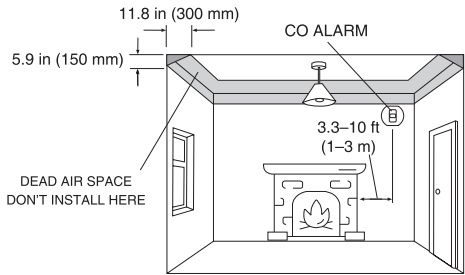

Figure 1: Installation in a room with a fuel-burning appliance
- 1.Installing a CO alarm in a room with a fuel-burning appliance (see Figure 1):